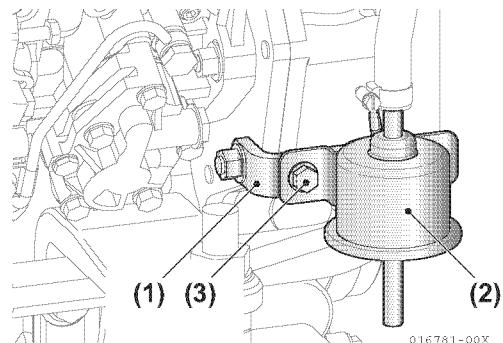

Figure 5-199
70. Install the fuel feed pump and bracket (**Figure 5-199**). Install the bracket and the fuel feed pump to the cylinder block by bolt.